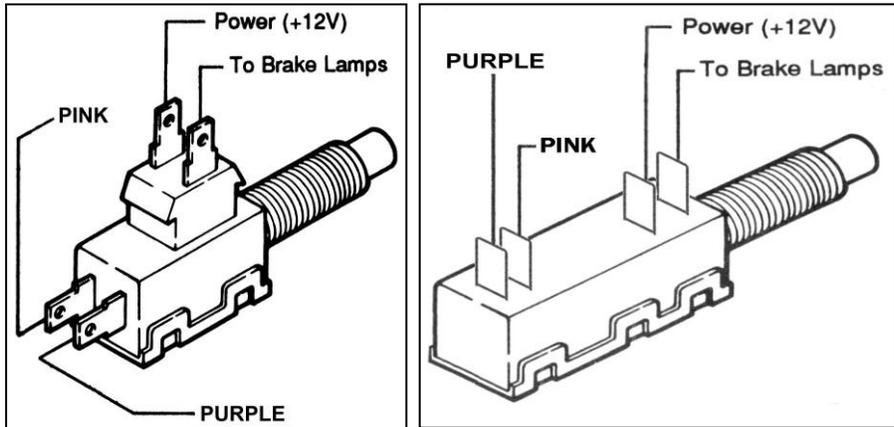
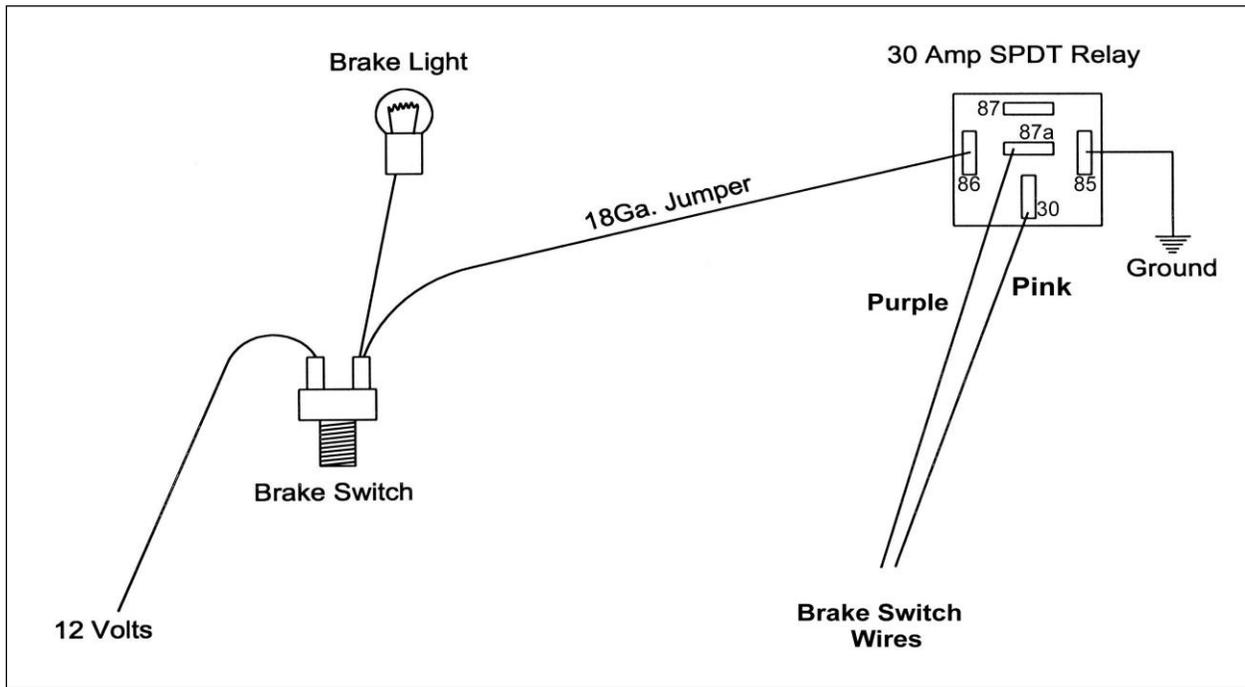

FIGURE 6.2 Brake Switch Connections
FIGURE 6.3 Brake Switch Relay
- C. BRAKE SW (optional)** - These circuits are used to provide power to the TCC solenoid in the automatic transmission. If you are not using the electronic automatic transmission, you may stow these wires. If you are using the electronic automatic transmission, these wires will connect to the brake switch terminals that are normally used for cruise control or TCC solenoid (normally closed). **These wires do not connect to the terminals for the brake lights.** See table 4.1 for the recommended brake switch. If you are using the recommended brake switch then you will wire it according to **Figure 6.2**. The pink wire to the back of the switch in the illustration is the wire that has power on it whether or not the brake is being applied. If your vehicle has a pressure type brake switch, you may use a relay as shown in **Figure 6.3**. The relay must be a **SPDT Relay** and wired correctly or it could result in a dangerous situation with the vehicle. The torque converter may not unlock.